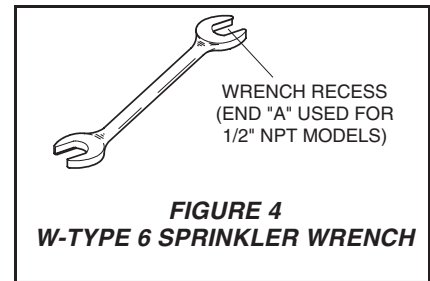

FIGURE 4
Step 3. Tighten the sprinkler into the sprinkler fitting using only the W-Type 6 Sprinkler Wrench (Ref. Figure 4), except that an 8 or 10 inch adjustable Crescent wrench is to be used for wax coated sprinklers. With reference to Figure 1 or 2, the W-Type 6 Sprinkler Wrench or the Crescent wrench, as applicable, is to be applied to the wrench flats.